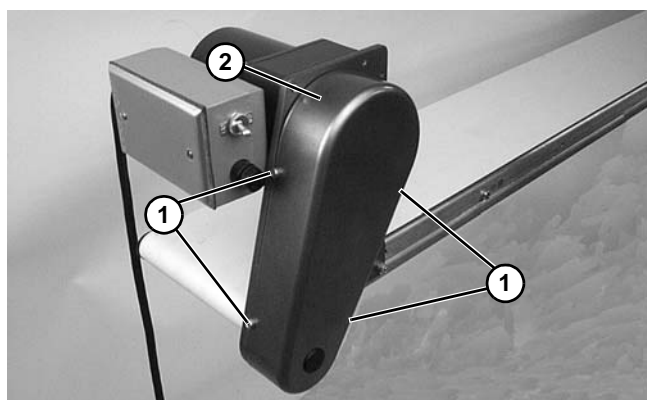

Figure 17
1. Remove four screws (**Figure 17, item 1**) and remove cover (**Figure 17, item 2**).
4. Install cover (**Figure 17, item 2**) with four (4) screws (**Figure 17, item 1**). Tighten screws to 35 in-lb (4 Nm).
1. Remove four (4) screws (**Figure 17, item 1**) and remove cover (**Figure 17, item 2**).
6. Install cover (Figure 17, item 2) with four (4) screws (Figure 17, item 1). Tighten screws to 35 in-lb (4 Nm).